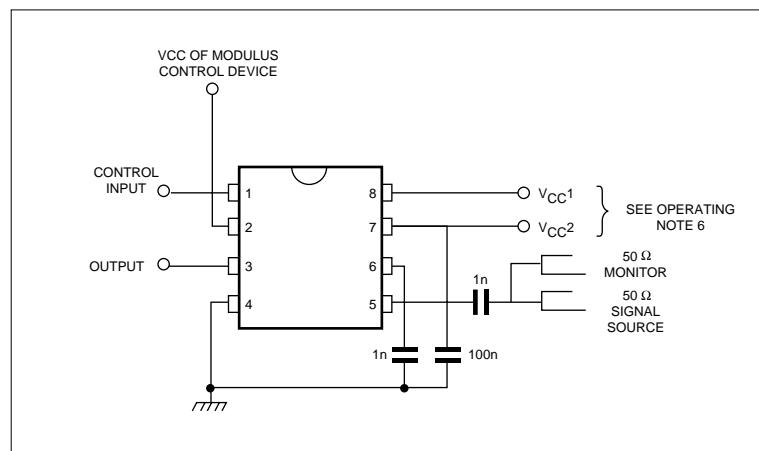

Figure 6 : Toggle frequency test circuit
- The test configuration for dynamic testing is shown in Fig.6.